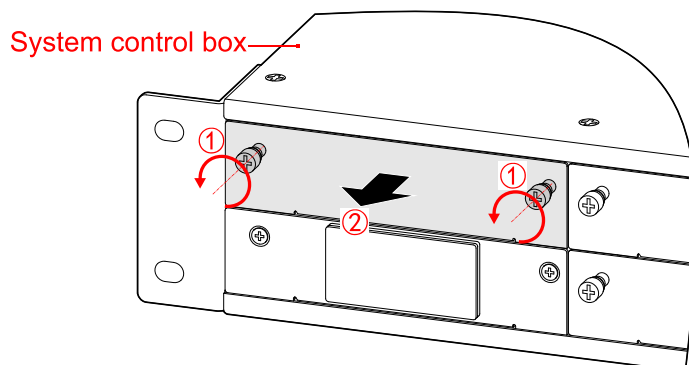

Figure3-16 Dismantle the dry contact card plate
Step 1 Unscrew the screws on the dry contact expansion card and dismantle the dry contact expansion card plate on the system control box, as shown in Figure3-16.